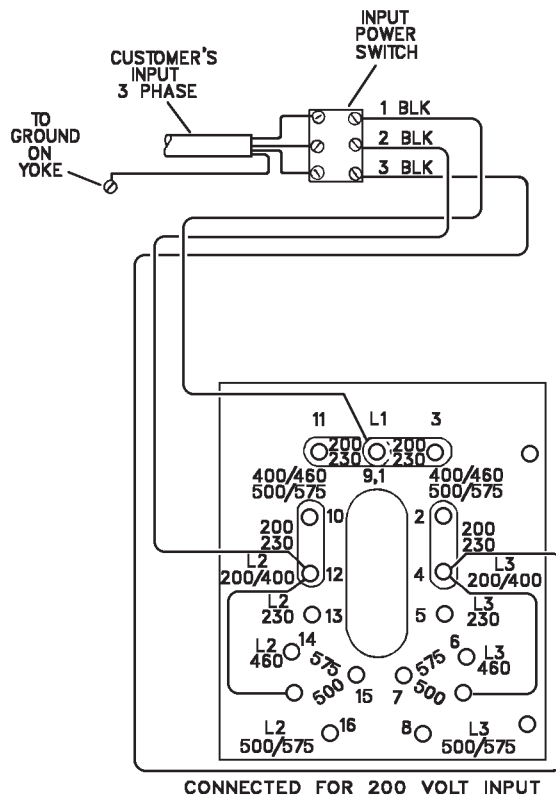

Figure 4-3 Input Voltage Connection and Changeover
1. A line (wall) disconnect switch, with fuses or circuit breakers should be provided at the main power panel (see Figure 4-3). The primary power input must have four insulated copper conductors
2. For access to input terminal board, remove the screws which secure the right side panel of the power supply. The input terminal board, Figure 4-3, is clearly marked to show the available primary voltage connections which may be used. Set the voltage links, on this board, to match your actual incoming voltage. Connect the 2 and 3 black wires from input power switch to match the input voltage. As shipped from the factory, the input terminal board voltage links are set up for the highest line voltage.
3. Thread the input conductor cables from the wall disconnect switch through the hole in the rear panel and through the hole in the yoke to the input power switch on the front panel (see Figure 4-3). Connect the conductors to terminals on the input power switch using UL listed pressure wire connectors. Connect the ground wire to the grounding stud provided on the lifting yoke near the changeover board.